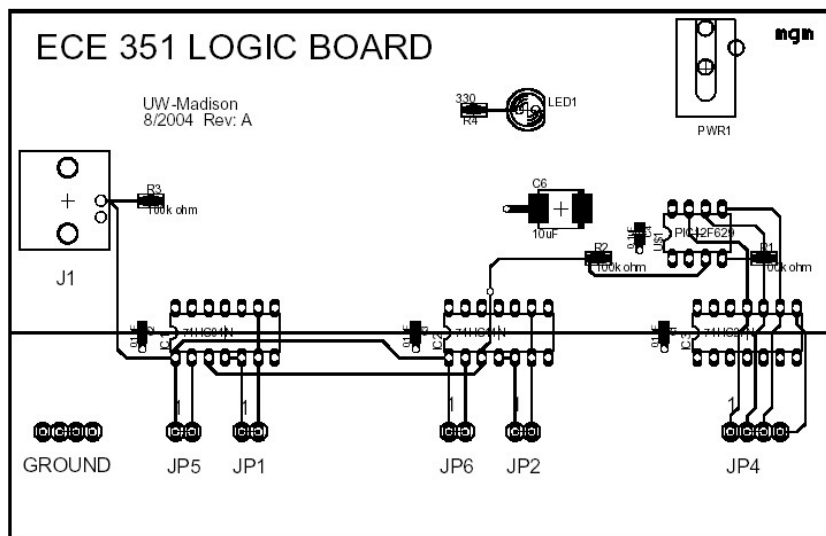

Figure 1-4 Logic Board Locations
- 2) Ensure that the Wavetek generator is OFF, then connect the Wavetek generator MAIN OUT to the BNC connector J1 using a short BNC-BNC cable. This connects the generator to pin 1 of the 74HC04 IC (integrated circuit) as shown below in Figure 1-4.